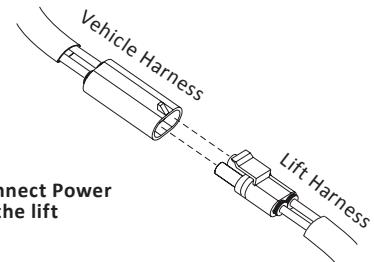

Figure 4-13
3. Position the open box behind the vehicle and connect the vehicle and lift harnesses together. *See Figure 4-13.*